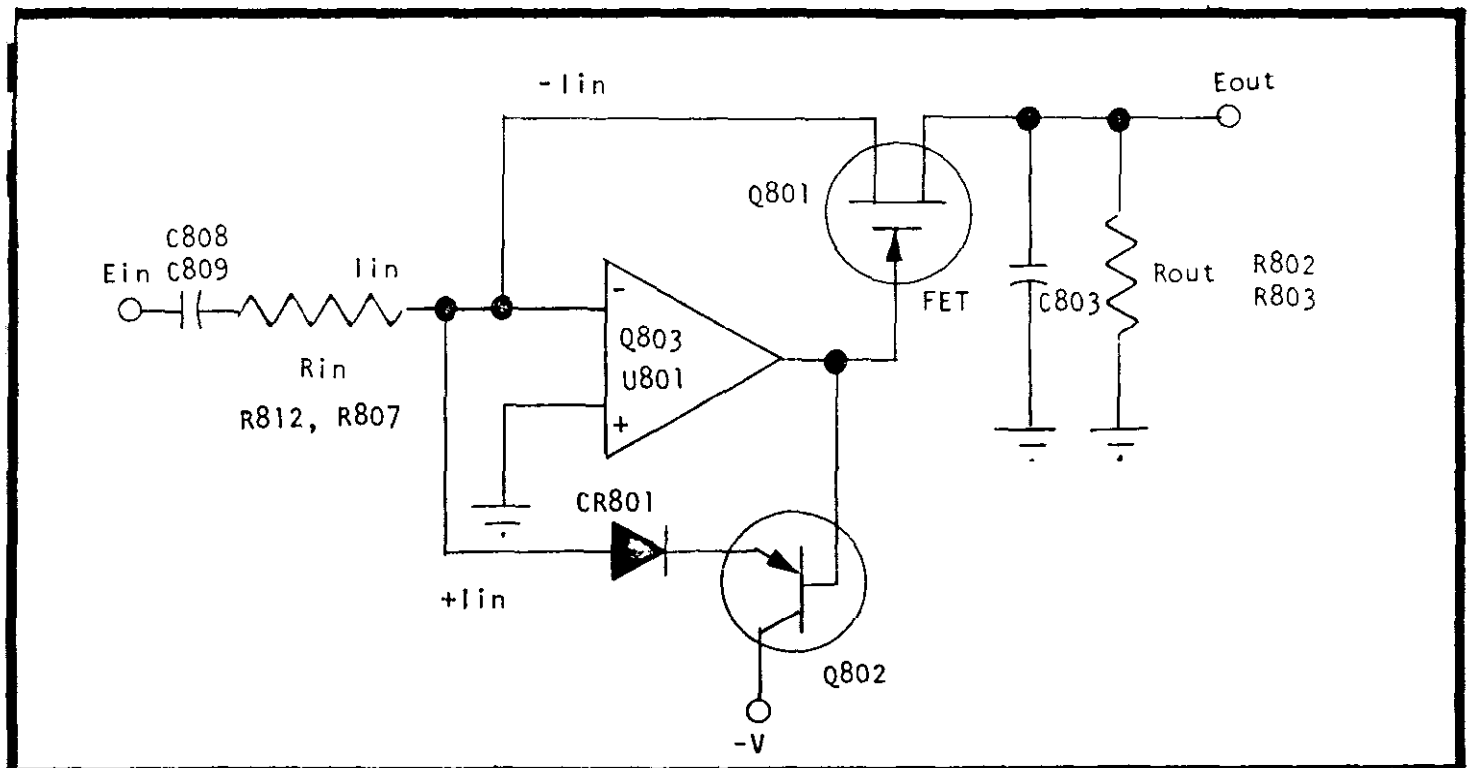

FIGURE 25. AC Converter Circuit.
3. C908 blocks DC signals up to $\pm 1000V$, so that AC signals may be looked at in the presence of DC voltages. The attenuator is referenced to -6 Volts to keep the DC bias voltage on C808 and C809 (figure 25) near zero.